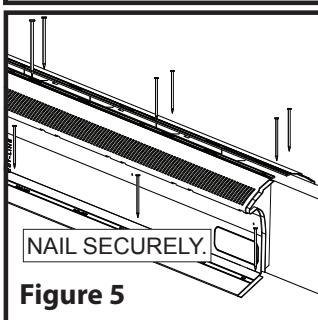
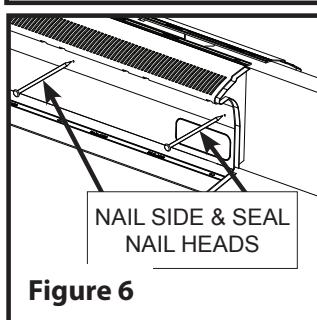

Figure 5
Figure 6
3. Place the TRV-4 against the ridge board and bend the bottom hinged flange to the pitch angle of the roof so it conforms to the roof slope. Nail the TRV-4 vent to the side surface of the ridge board with $1\frac{1}{4}$ " minimum nails through the molded nail holes. (See Figure 6) Nail the bottom flange with $\frac{3}{4}$ " minimum roofing nails using the molded nail holes. (See Figure 5) Nail the top flange with $\frac{3}{4}$ " minimum roofing nails using the molded nail holes. (See Figure 5)